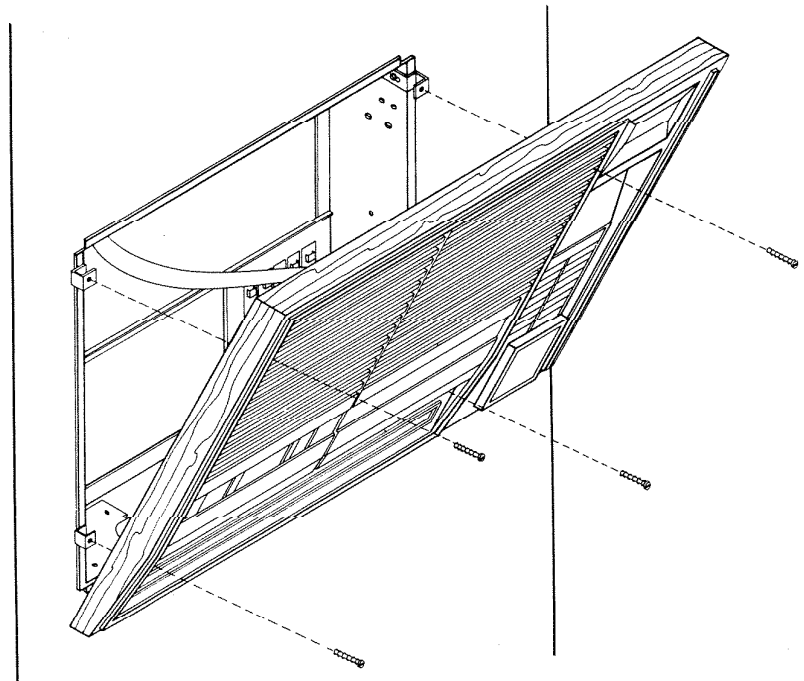

FIGURE 19
5. Secure master panel to rough-in mounting brackets with four provided No. 6 x 3/4" screws. See Figure 19.